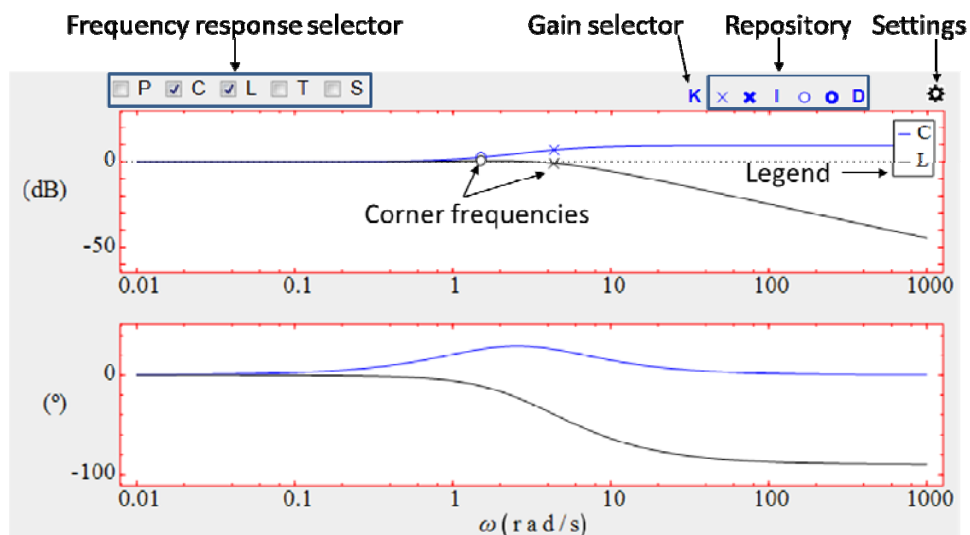

Figure 16. Frequency response zone with a Bode plot diagram
It is also possible to select the type and size of the frequency response diagram clicking on the gearwheel icon located in the right upper corner of the zone (see Figure 16 and Figure 19)
In this zone, the following elements are available (see Figure 16):
- Magnitude, phase, polar and nichols curves for the prefilter F (blue), the controller C (blue), the plant P (red), the open-loop transfer function $L=P \cdot C$ (black), the closed-loop transfer function $T=L/(1+L)$ (dark green), the transfer function $F \cdot T$ (black), and the sensibility transfer function $S=1/1+L$ (grey). The user can choose the curves that are plotted by the selector located in the left upper square (see Figure 16). These curves are plotted in solid lines. If a controller has been loaded to compare (see Section 12), then their curves are plotted in dashed lines. Note that the available functions in the selector depend on the selected block in the *block diagram* zone. For example, when the block C is selected, then the available functions in the selector are P , C , L , T , and S (see Figure 16).